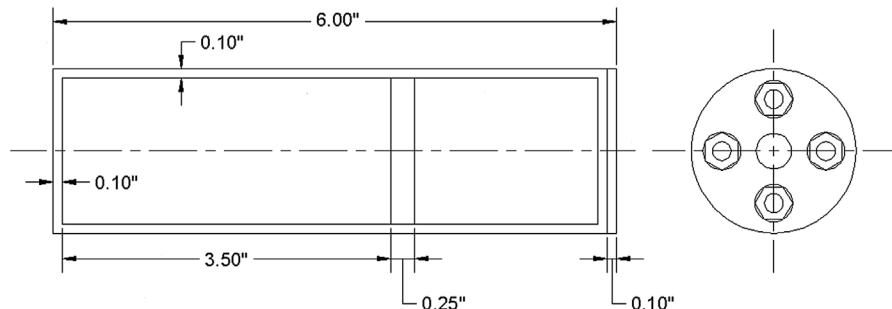

FIGURE 8.28 Body of part.
**Step 8.** Trim or fillet the main vertical guideline and continue offsetting, based on the given geometry, to “sketch out” the basic outline of the shape, as seen in Fig. 8.28. Do not yet add dimensions; they are for construction only.